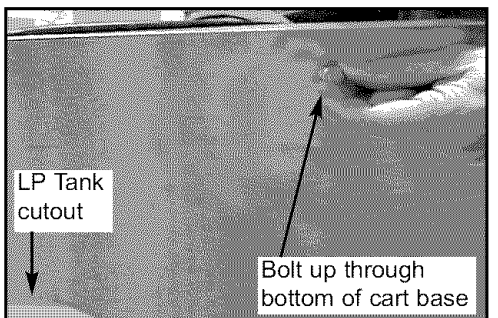

Fig. 3
3. **Door Stop:** Insert Door Stop Bolt downward from bottom side of Cart Base through the hole found in the right/front of the base. (See Fig 3)